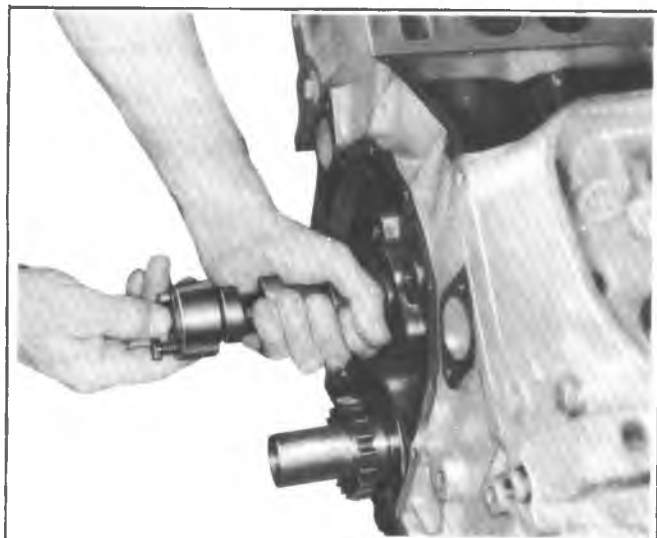

Fig. 6A5-36--Removing Camshaft
2. Position indicator with ball socket adapter (Tool J-8520) on push rod (fig. 6A5-35). Make sure push rod is in the lifter socket.